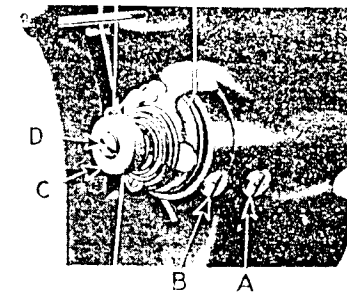

Fig. 22. Adjustment of the Thread Controller
The tension on the needle thread should only be regulated when the presser foot is down. Having lowered the presser foot, turn the thumb nut (C, Fig. 22) at the front of the tension discs over to the right to increase the tension. To decrease the tension, turn this thumb nut over to the left.
For more controller action on the thread, loosen the set screw (B, Fig. 22) and set the thread controller spring stop lower. For less action, set the thread controller spring stop higher, then securely tighten the set screw (B).
To increase the tension of the thread controller spring on the thread, loosen the tension stud set screw (A, Fig. 22) and turn the tension stud (D, Fig. 22) over to the left with a screwdriver. To decrease the tension, turn the tension stud (D) over to the right, then securely tighten the stud set screw (A).